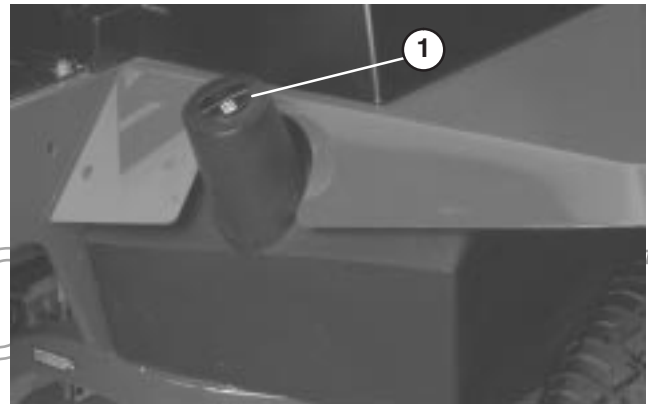

Figure 60
- Remove drain plug from bottom of reservoir (Fig. 60) and let hydraulic fluid flow into drain pan. Reinstall and tighten plug when hydraulic fluid stops draining.